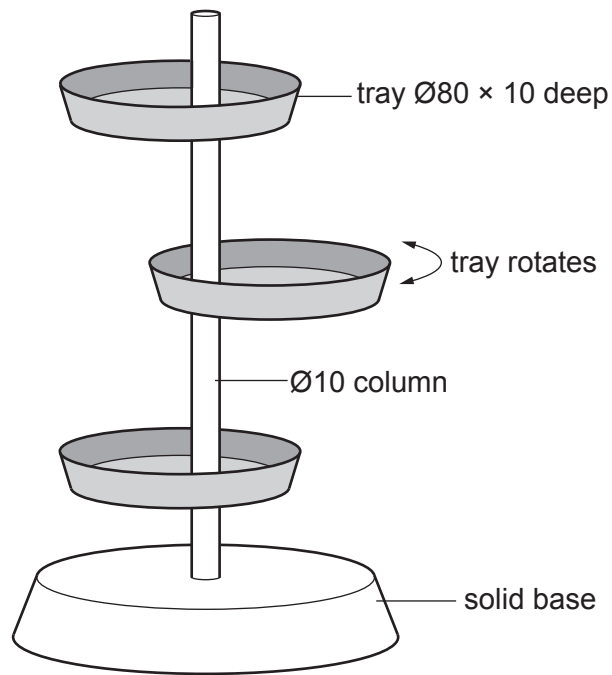

Fig. 12.1
- 12 Fig. 12.1 shows an incomplete design for a desk tidy. The trays are made from vacuum formed plastic and can rotate as shown.
- (d) Use sketches and notes to show how the trays could be supported on the column and allowed to rotate freely as shown in Fig. 12.1.